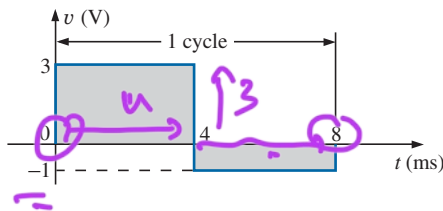

FIG. 13.46
- a. Fig. 13.46.
The response of a dc meter to the waveform in Fig. 13.46.